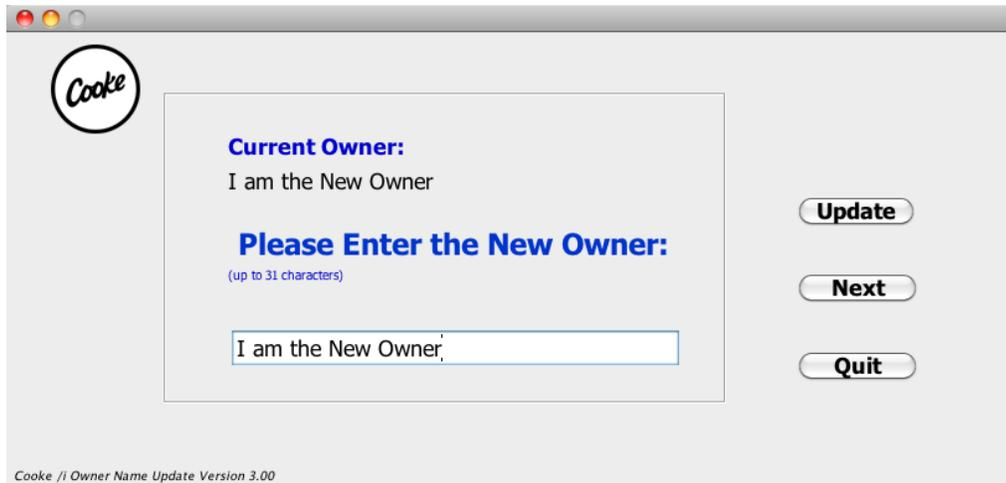

Figure 3 Owner Updated
- Input the name of the new owner, and then click the **Update** button, the newly input owner name is displayed at the top of the screen as shown in Figure3.